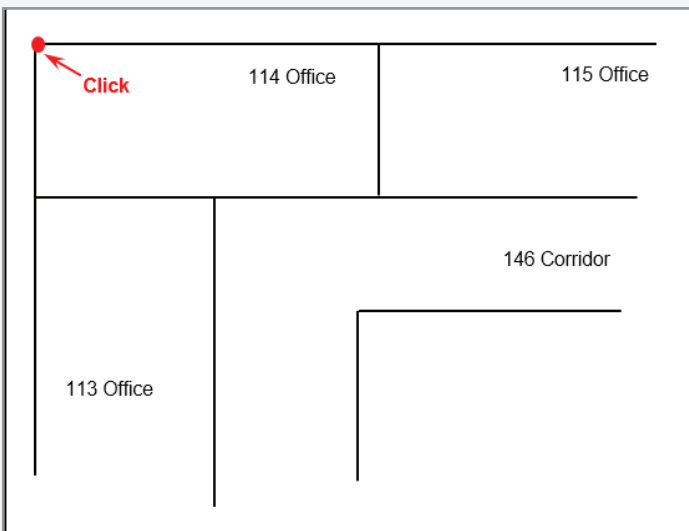

Figure 1a. Click Corner of Room
1. Rectangular Rooms: If you have a room that's a rectangle, you simply click opposite corners of the room to establish its outline (Figures 1a and 1b). That's all it takes to define the room outline.